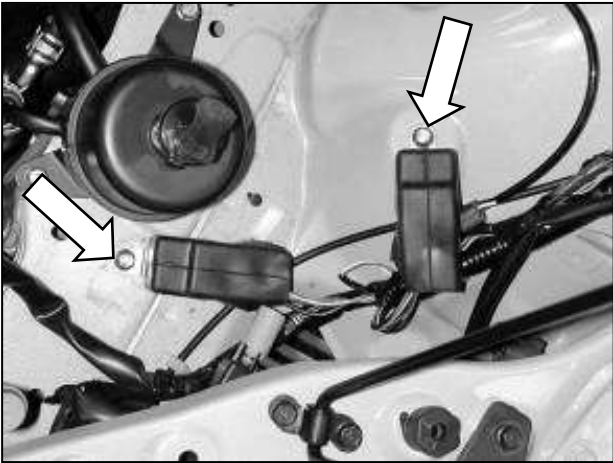

Fig. 4
- h. Mount the headlight relays to the fender using the factory threaded holes and the original relay mount bolts. (Fig. 4)